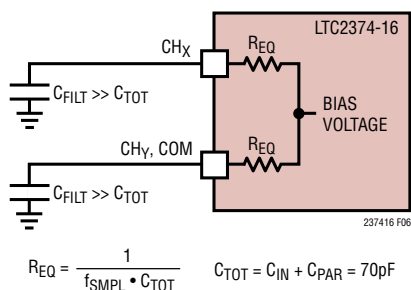

Figure 6. Equivalent Circuit for the MUX Analog Inputs of the LTC2374-16 at 1.6Msps
**Fully Averaged:** Consider the case where MUXOUT+/- is directly wired to ADCIN+/-. If the coupling filter's capacitors (CFILT) at the MUX analog inputs are much larger than the sum of the ADC's sample capacitors (50pF) and the MUX's output summing node capacitances (20pF), then the sampling glitch is greatly attenuated. The driving amplifier effectively only sees the average sampling current, which is quite small. At 1.6Msps, the equivalent input resistance is approximately 9k (as shown in Figure 6), a benign resistive load for most precision amplifiers. However, resistive voltage division will occur between the coupling filter's DC resistance and MUX's equivalent (switched-capacitor) input resistance, thus producing a gain error.